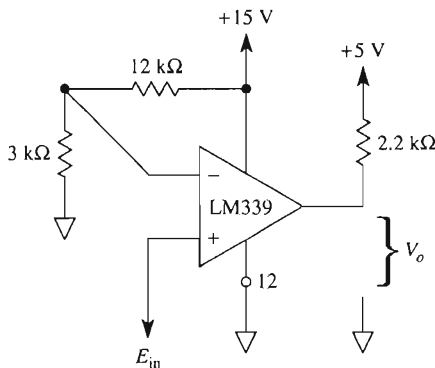

FIGURE P2-16
- 2-16. In Fig. P2-16, E_{in} is a triangle wave. The amplitude is -5 V to $+5\text{ V}$ and the frequency is 100 Hz . Sketch accurately the graphs of (a) V_o vs. E_{in} ; (b) V_o vs. t .